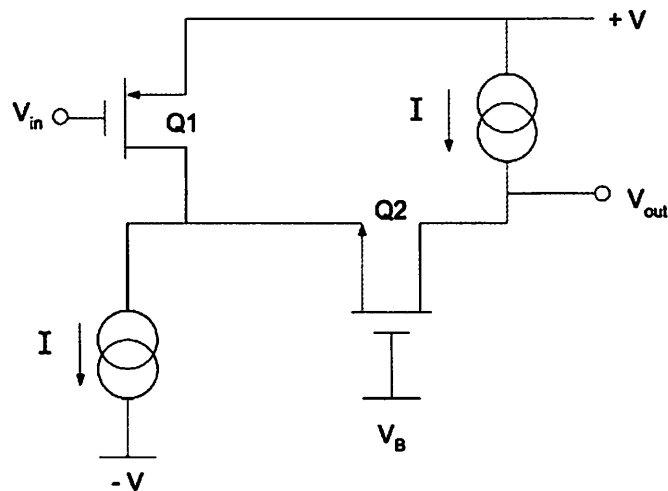

Figure 2.1
2. (a) Figure 2.1 shows a folded cascode connection. What is the main advantage of this design over the more classical cascode connection? Show via a brief sketch how the architecture of Figure 2.1 can be used to form the basis of a single stage fully differential folded cascode operational amplifier (op-amp) with common-mode feedback included. [6]